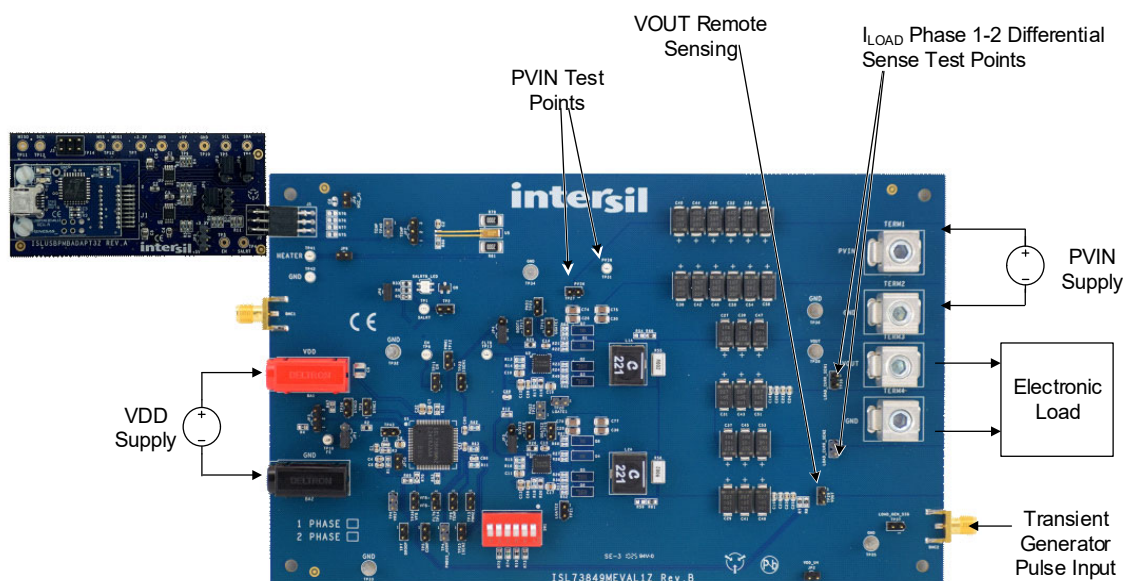

Figure 3. ISL73849MEVAL1Z Board Setup
- Connect the ISLUSBPMBADAPT3ZA to the J2 connector as shown in Figure 3.
- Apply a 4.5V to 15V voltage to PVIN metal banana plug connectors as shown in Figure 3.
- Apply a 4.75V to 13.2V voltage to the VDD banana connectors as shown in Figure 3.
- If required, a resistor or electronic load can be connected to the VOUT metal banana plug connectors as shown in Figure 3. If using an electronic load, add 4W sense lines on the TP29 test jumper.